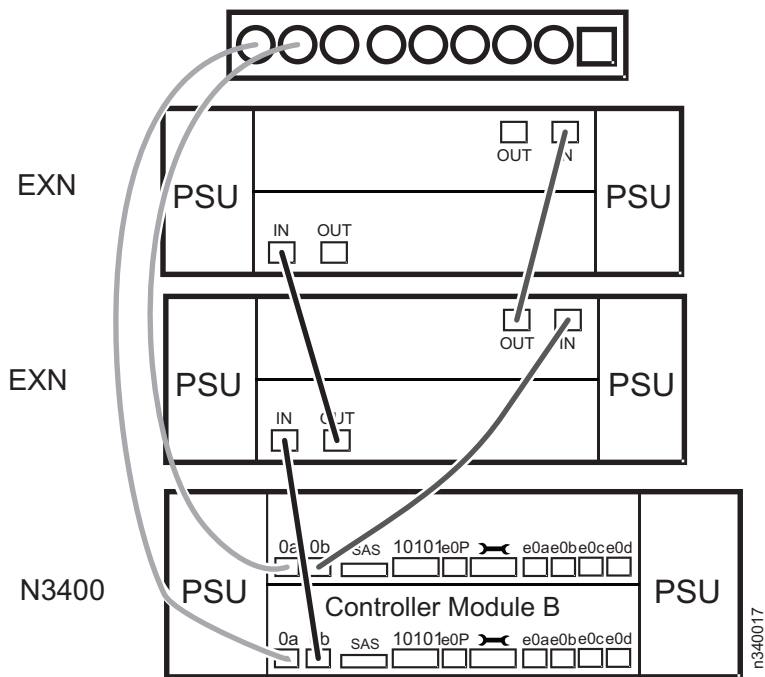

Figure 14. Cabling to the storage expansion units
2. Cable the N3400 to the storage expansion units as shown in Figure 14.